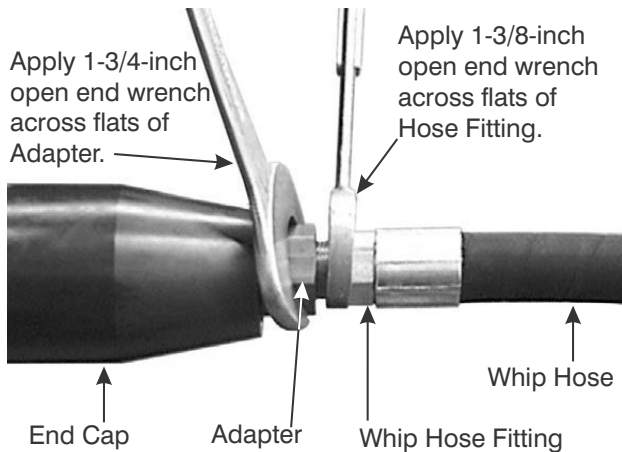

Figure 11-1. Remove Whip Hose from Adapter.
2. Using a 1-3/4-inch open-end wrench to hold the Adapter (11) in place, use a 1-3/8-inch open-end wrench to loosen and thread the hose fitting of Whip Hose (13) from the Adapter. Refer to Figure 11-1.
6. Use a 1-3/4-inch open-end wrench to hold the Adapter (11) in place, and a 1-3/8-inch open-end wrench to secure the Whip Hose (13) fitting in the Adapter (11). Refer to Figure 11-1.